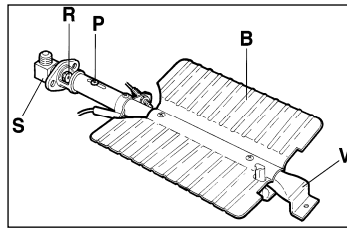

Fig 8
- Unscrew the nozzle **R** (Fig.8) using a 10 mm spanner and replace it with the nozzle needed for the new type of gas accordingly.